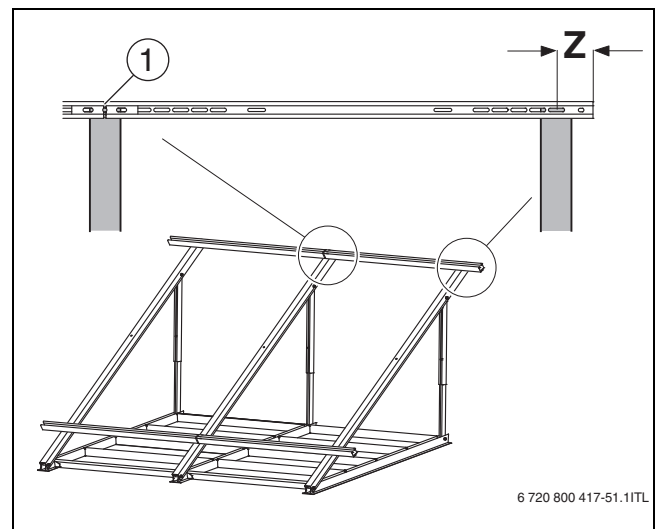

Fig. 30 Fitting the profile rails
- ▶ Position the profile rails on the flat roof frames, beginning as shown in → Fig. 30.